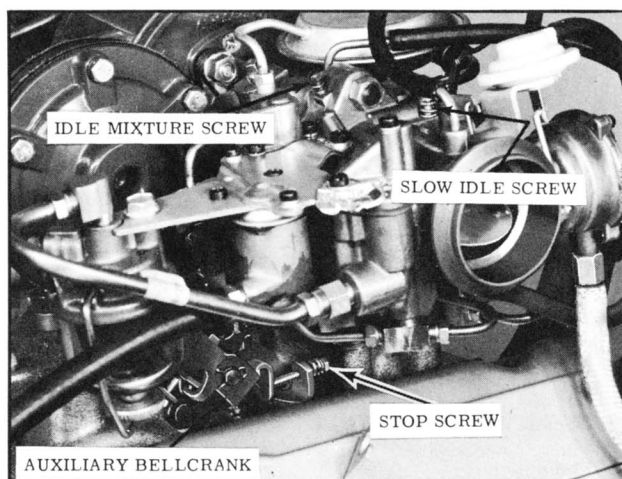

Fig. 8-124 Bellcrank Stop Screw
7. Back out the auxiliary bellcrank stop screw until the bellcrank contacts the stop. (Fig. 8-124)
12. Adjust the auxiliary bellcrank stop screw until it just affects the slow idle and then back it out one turn. (Fig. 8-124)